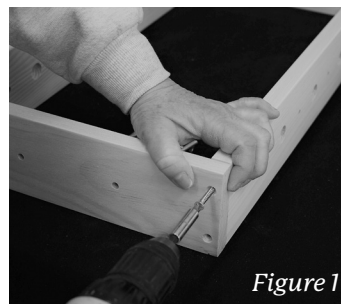

Figure 1
Step 1 - Screw Cross Brace to Side Rail. (See Fig. 1) The Sievers Benchwork stamp will face the inside of the section.